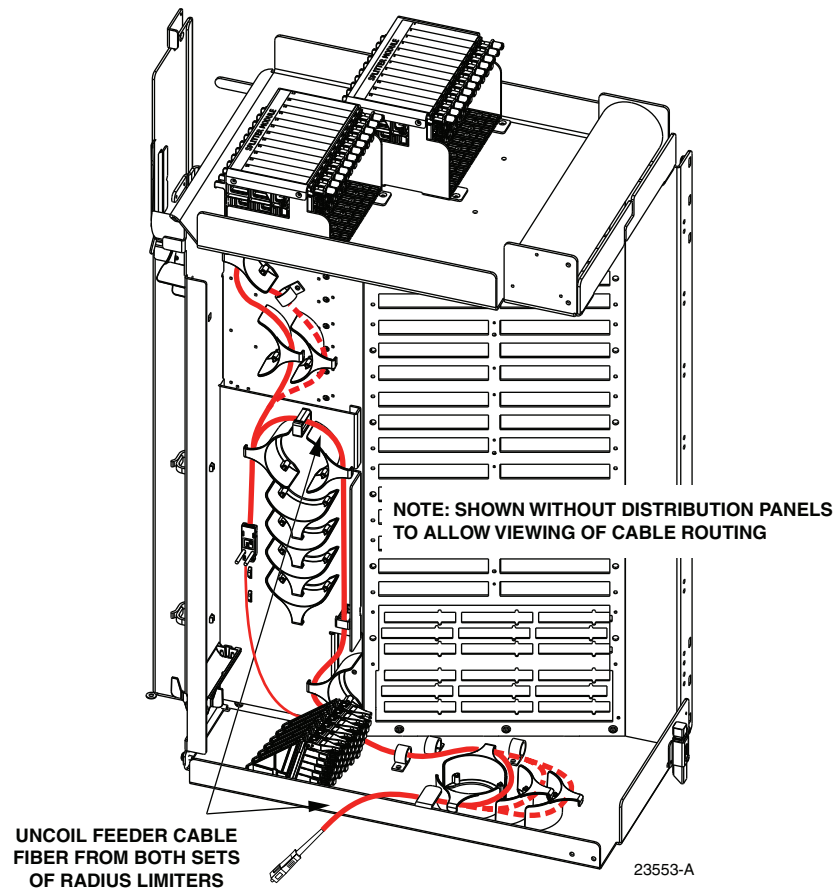

Figure 18. Uncoiling the Feeder Cable Fiber
6. Carefully unwind the feeder fiber from the radius limiters located on the bottom and on the left side of the swing-out assembly. Figure 18 shows the section of the fiber that will need to be released for re-routing. When necessary, backfeed the fiber to free the connector from the remaining fibers.